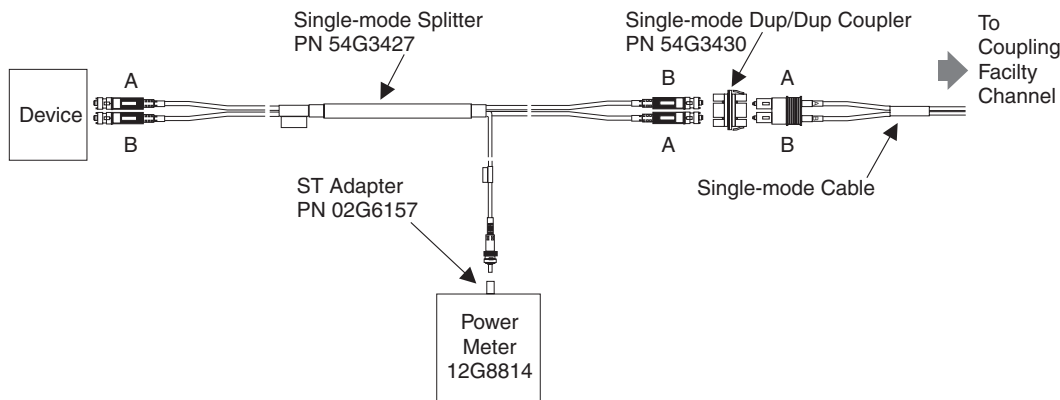
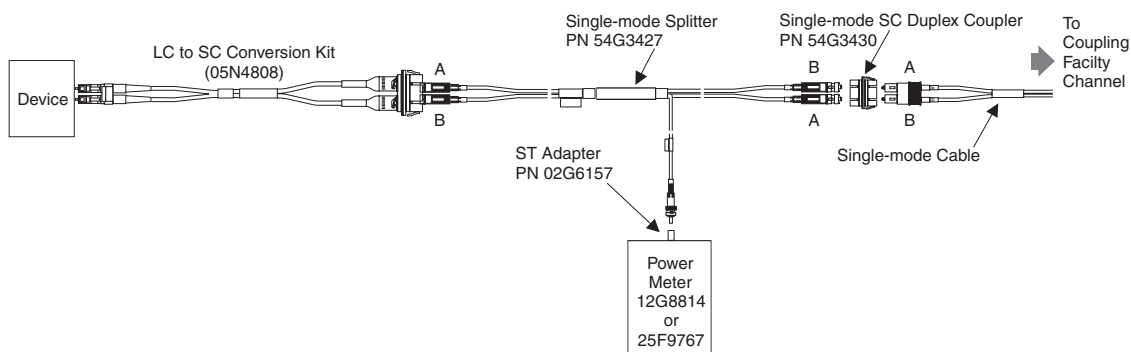

Figure C-19. Measuring Transmit-Out Power for a Single-Mode Coupling Facility Channel Link
Figure C-20. Measuring Transmit-Out Power for an ISC3 Operating at Compatibility Mode to ISC Legacy Link (ISC3 to ISC Legacy)
Assemble the test equipment (using Figure C-19 on page C-20 or Figure C-20 on page C-20) as follows:
2. Attach the splitter connector marked “DEVICE TO BE MEASURED” to the device, and attach the unmarked splitter connector to the link using the SC duplex coupler (part number 54G3421). For ISC3, connect the LC to SC conversion kit, part number 05N4808, between the splitter and the device (see Figure C-20 on page C-20). The splitter is now positioned to measure the transmitter output power of the device.